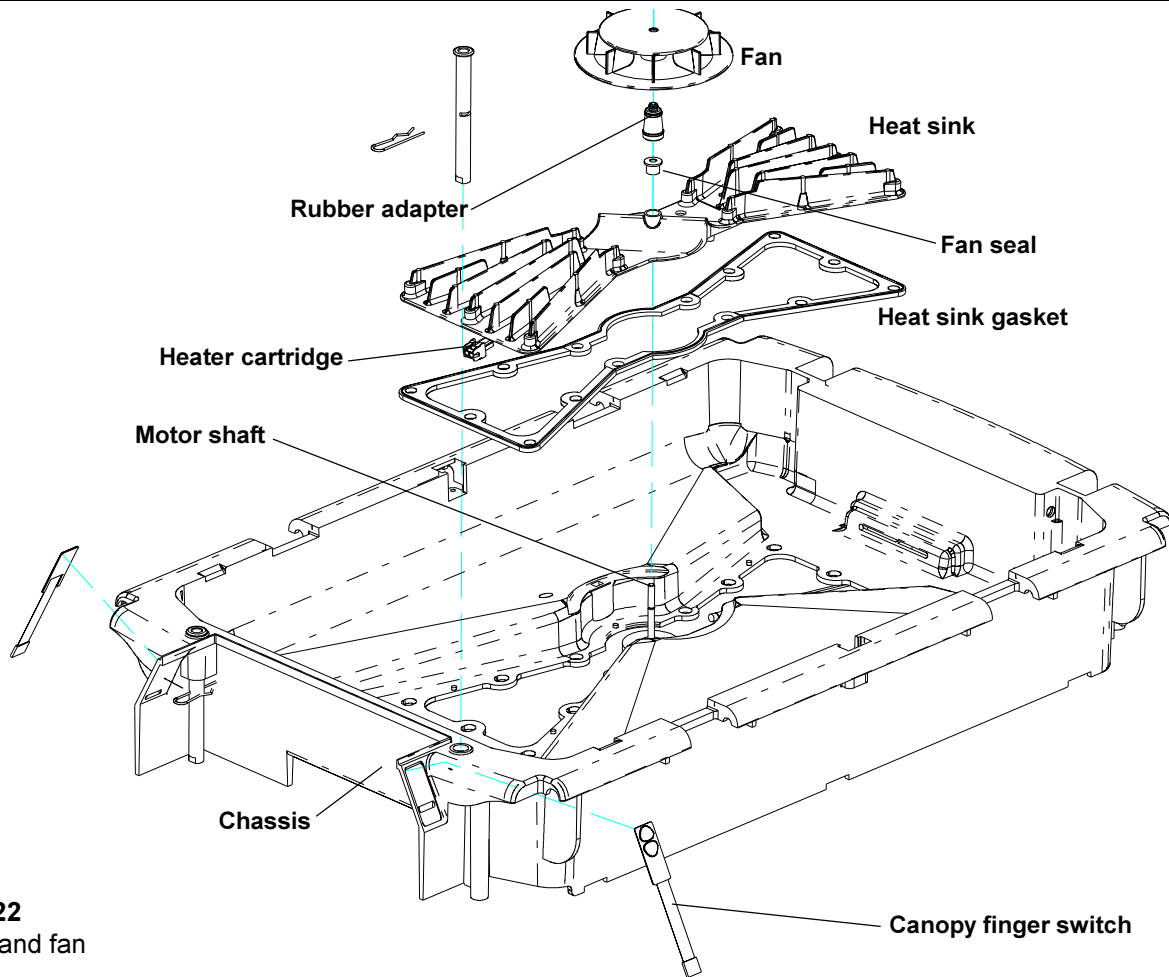

Figure 5-22
5.63 Cartridge heater replacement (Figure 5-22, 5-23 and 6-11)
5.68 Canopy finger switch (Figure 5-22)